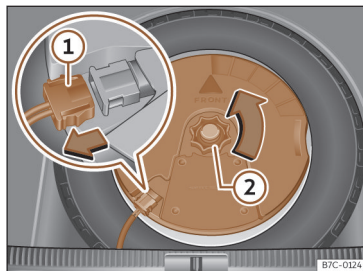

Fig. 239 In the boot: remove the subwoofer.
- Disconnect the subwoofer's speaker cable >>> **Fig. 239 ①**.
- Turn the securing wheel anti-clockwise >>> **Fig. 239 ②**.